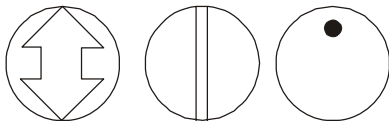

Figure 6: Damper Position Icons
1. Check that the damper blade is accessible or that its position is permanently marked on the end of the damper shaft as illustrated in Figure 6.